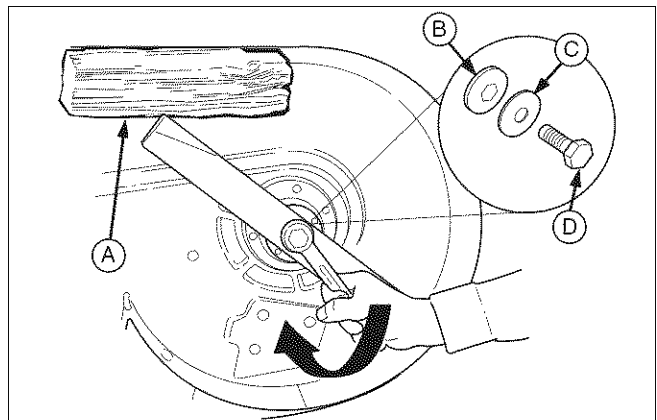

Figure 19. Blade Installation
3. Remove the capscrew (D, Figure 19), spring washer (C), hex washer (B), and blade.
6. Reinstall the blade (Figure 19) with the tabs pointing up toward the mower deck as shown.
7. Reinstall the hex washer (B, Figure 19), spring washer (C) and capscrew (D). Use a wooden block (A) to prevent blade rotation while tightening the capscrew (D) to 45-55 ft. lbs. (61-75 N.m).